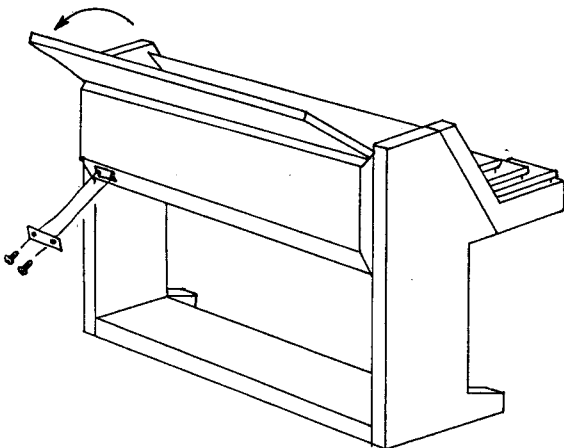
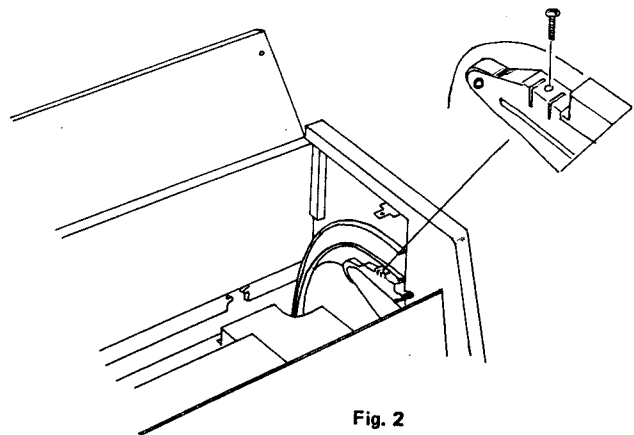

Fig. 1
Fig. 2
1. Remove the metal plate used to cover the opening on the back of the Electone provided for this accessory (2 screws). Retain these screws as they will be used in step #6 (see figure 1).
2. Remove top board retaining screws and open the top board. FX-3 has two (2) screws on top.
3. Remove control panel retaining screws (2), (see figure 2).